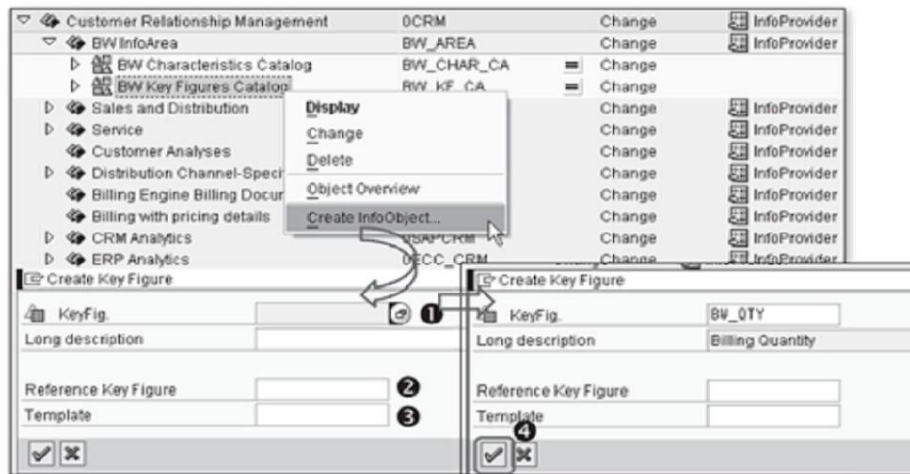

Figure 3.30 Create Key Figure InfoObject
4. Select InfoObject catalog BW_KF_CA, open the context menu, and click Create InfoObject (1 Figure 3.30).
Click the Continue icon (4 of Figure 3.30).